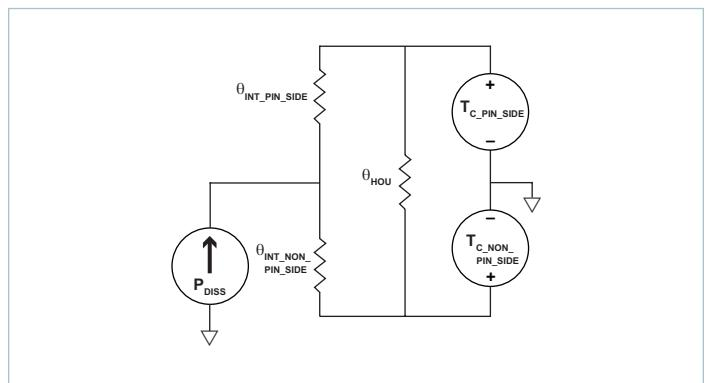
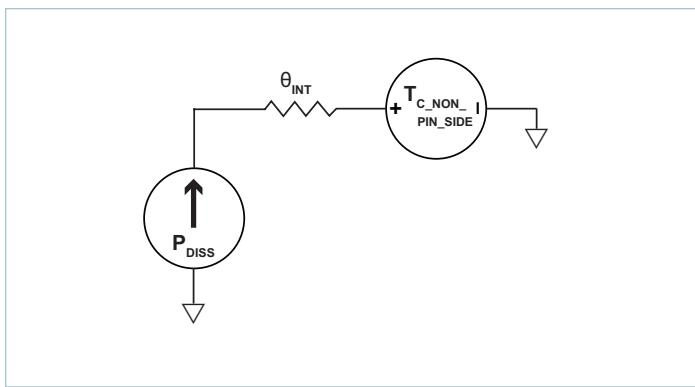

Figure 22 — Double-sided cooling VIA thermal model
Figure 23 — Single-sided cooling VIA thermal model
The VIA package provides effective conduction cooling from either of the two module surfaces. Heat may be removed from the pin-side surface, the non-pin-side surface or both. The extent to which these two surfaces are cooled is a key component for determining the maximum power that can be processed by a BCM, as can be seen from the specified thermal operating area in Figure 1. Since the BCM has a maximum internal temperature rating, it is necessary to estimate this temperature based on a system-level thermal solution. For this purpose, it is helpful to simplify the thermal solution into a roughly equivalent circuit where power dissipation is modeled as a current source, isothermal surface temperatures are represented as voltage sources and the thermal resistances are represented as resistors. Figure 22 shows the "thermal circuit" for the BCM in a VIA package.
- Single-side cooling: the model of Figure 22 can be simplified by calculating the parallel resistor network and using one simple thermal resistance number and the internal power dissipation curves; an example for non-pin-side cooling only is shown in Figure 23.